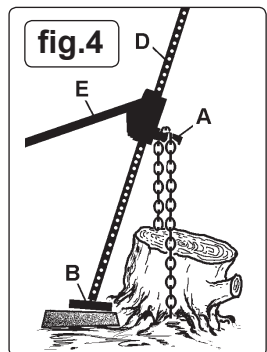
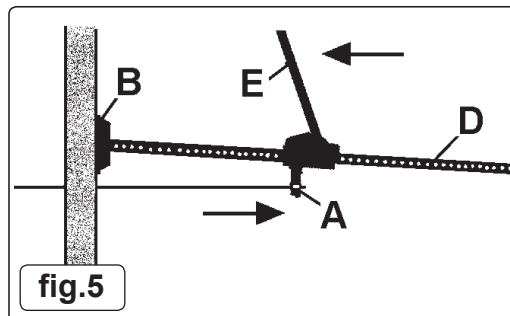

fig.4
fig.5
- 3.3.1. The jack may be used for a variety of other purposes such as tensioning fences (See fig.5), pulling out tree stumps (See fig.4) and positioning of heavy items such as machinery. In all cases such operations should begin with a risk assessment exercise including consideration of the following points.